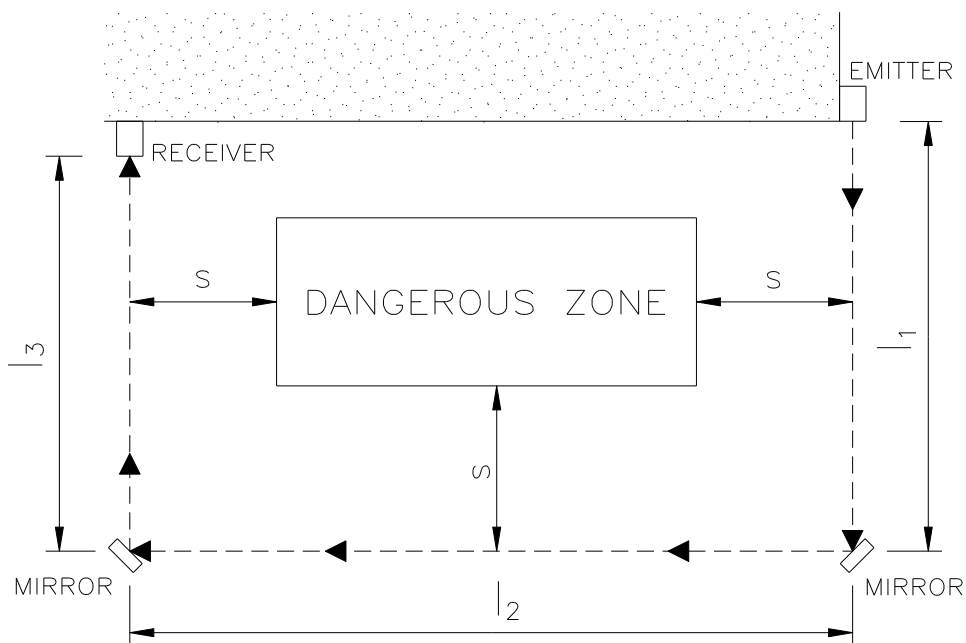

Figure 24
- Place the mirrors so as to ensure compliance with the minimum safety distance **S** (Figure 24) on each side from which the danger zone can be accessed.